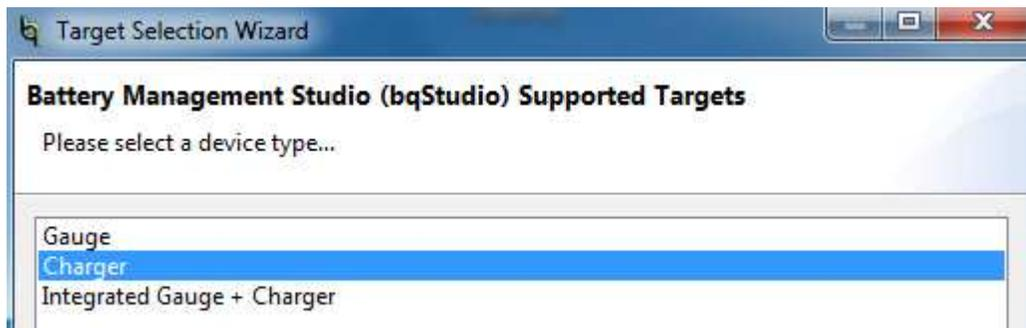

Figure 3. Selection Window of the bqStudio Evaluation Software
- Turn on the computer. Launch *Battery Management Studio* (bqStudio). Select *Charge* and bq25898 (or bq25898D, bq25898C, accordingly) evaluation software. The main window of the software is shown in Figure 3.